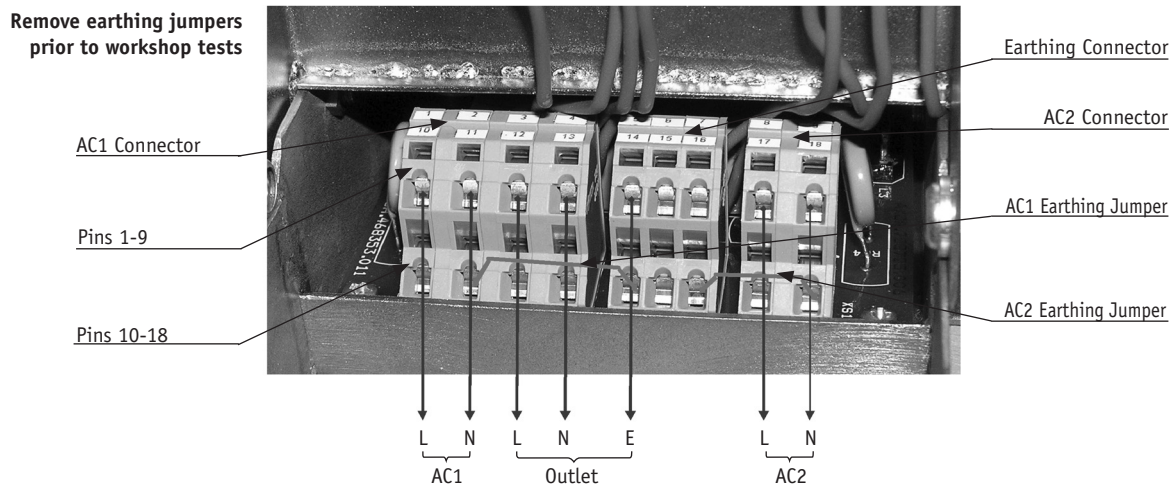

Figure 77
- 2) Disconnect existing earthing jumpers from RC AC power connectors when RC is supplied from LV phase to earth power supply. (Fig. 77)
The RC is supplied with installed earthing jumpers that connect the neutral inputs of both auxiliary supplies to the RC metal enclosure (fig. 77). This is required for the typical application when phase-to-phase auxiliary voltage from VT is used, to protect electronics against overvoltages occurring in case of BIL impulses on primary side. However for testing purposes in the workshop when LV phase to earth voltage is used, these earthing jumpers must be removed to avoid possible short-circuit through cubicle earthing if line and neutral wires were accidentally swapped.
- Connect the wires of the power supply cables to the relevant contacts of PSFM connectors as shown in Fig. 77. See Fig. 45 for recommendations for connection of wires to WAGO cage clamps.